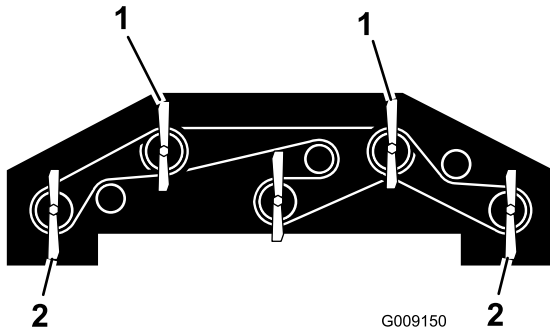

Figure 93
1. Rotate the 2 outer front blades and the winglet blades so that they point straight forward (Figure 93).